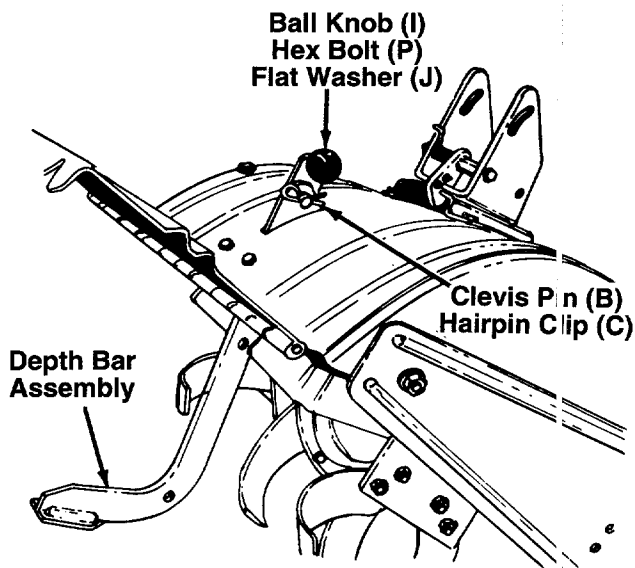
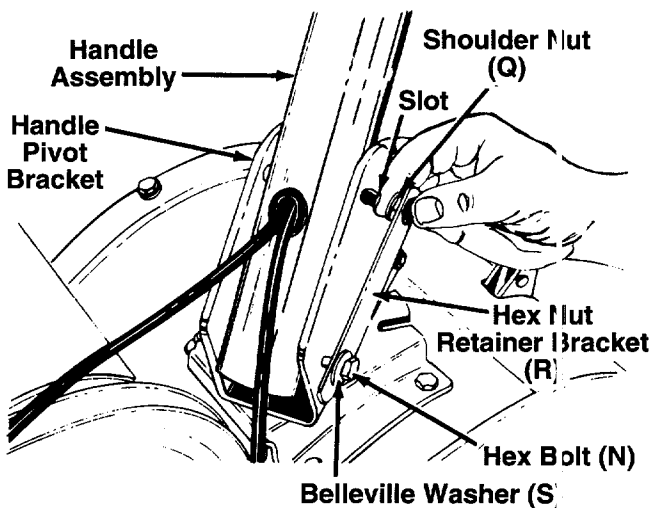

FIGURE 3.
FIGURE 4.
4. Tip the tiller forward so it rests on front counterweight. See figure 3. ←
5. Raise the tine shield hinge flap assembly. Insert the depth bar assembly between the two shoulder bolts and up through the tine shield assembly as shown in figure 3.
6. Insert clevis pin (B) through the tine shield and depth bar assemblies. Secure with hairpin clip (C). See figure 3.
7. Insert hex bolt (P) into the upper hole of the depth bar assembly. Place flat washer (J) onto the hex bolt and thread ball knob (I) onto the hex bolt. See figure 3. Tighten securely.
9. Place belleville washer (S) onto hex bolt (N) (crown side of washer goes against the bolt). Place hex nut retainer bracket (R) on hex bolt (N), using the round hole in retainer bracket.
10. Place handle assembly in position in the handle pivot bracket. Line up the holes in handle assembly with the holes (and slots) in the pivot bracket. ← See figure 4.
11. Insert hex bolt (with washer and hex nut retainer attached) through the bottom holes on the handle pivot bracket and handle assembly. Head of the hex bolt should be to the left hand side of the unit. See figure 4.
12. Place shoulder nut (Q) between hex nut retainer bracket and pivot bracket. See figure 4.